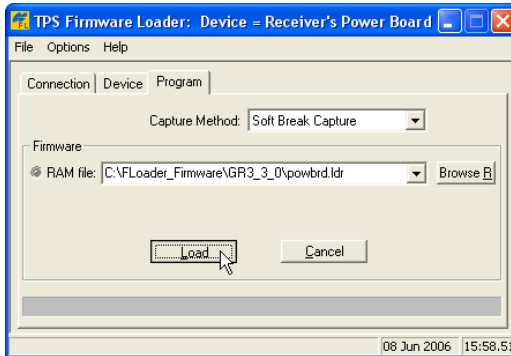

Figure 5-22. Program Tab Settings
- Click the **Program** tab and set the *Capture Method* to “Soft Break Capture” (recommended) (Figure 5-22).
- Browse for and select the Power board’s RAM file (Figure 5-22).